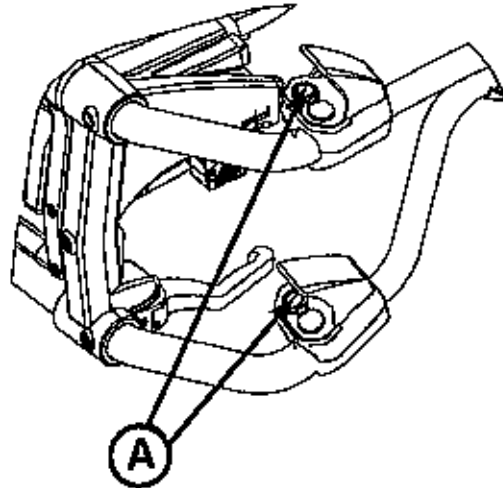
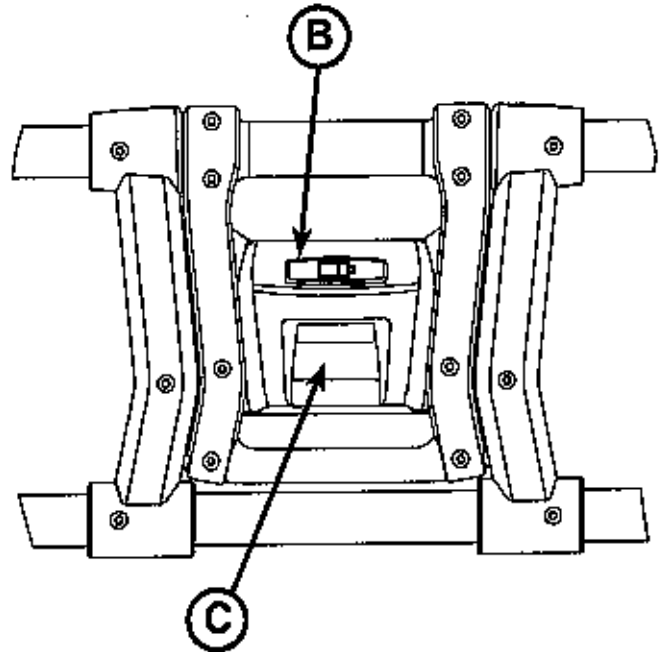

Figure 18: Retract Button - Control Switch
Figure 19: Foot End Control Enclosure
To check the battery power level, press the retract (→) button (A) as shown in Figure 18 on the cot control switch to activate the cot battery LED indicator (B) as shown in "Figure 19: Foot End Control Enclosure" on page 31.
The hour meter (C), located on the foot end control enclosure, indicates the amount of time (HHH.H hours) that the hydraulics have been activated as shown in Figure 19. You can use the hour meter to determine the frequency for preventative maintenance procedures as listed on page 64.